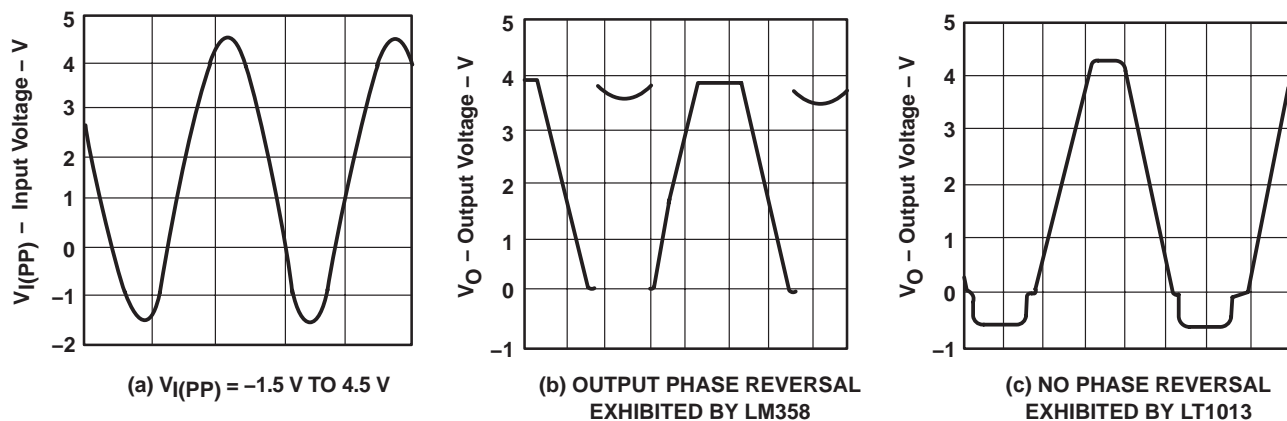

Figure 24. Voltage-Follower Response With Input Exceeding the Negative Common-Mode Input Voltage Range
2. When the input is more than 400 mV below ground (at $T_A = 25^\circ\text{C}$), the input stage of similar type operational amplifiers saturates and phase reversal occurs at the output. This can cause lockup in servo systems. Because of unique phase-reversal protection circuitry (Q21, Q22, Q27, and Q28), the LT1013 outputs do not reverse, even when the inputs are at -1.5 V (see Figure 24).